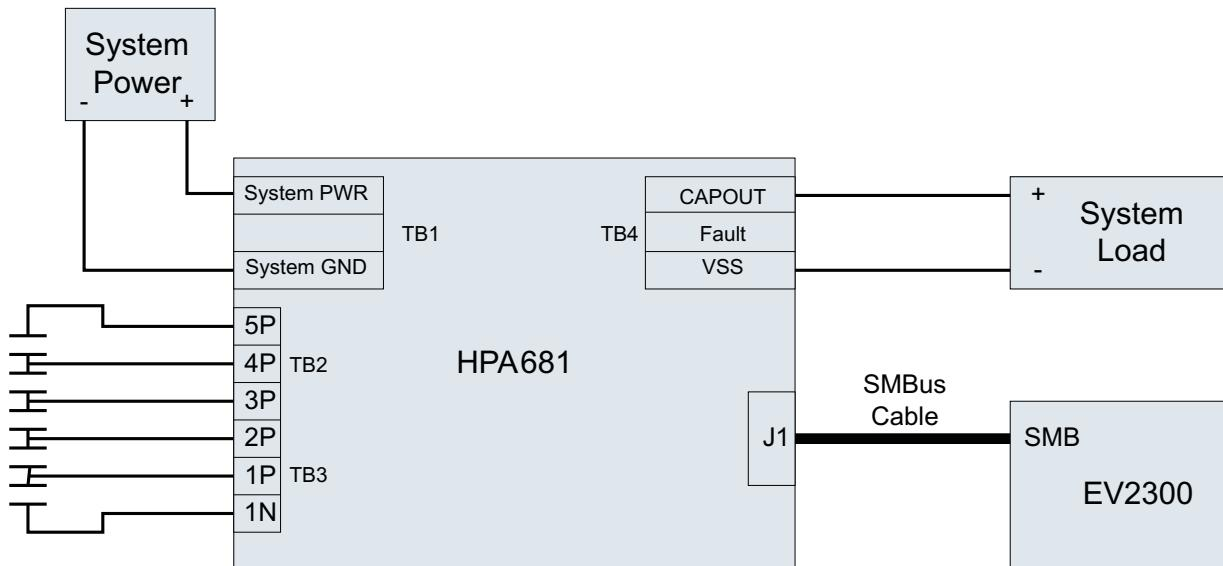
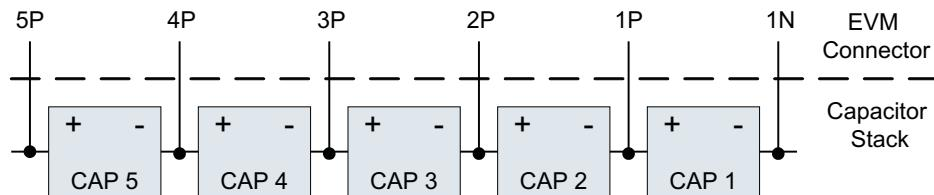

Figure 9. bq33100 Circuit Module Connection to Cells, System Load, and System Power
Figure 14. Connection Sequence
Figure 9 shows how to connect the bq33100 circuit module to the super capacitors, system load, and system power.
1. Connect the most negative terminal (– terminal of cap 1) of the serially-connected, 5-capacitor stack to the 1N PIN of the TB2–TB3 connector as shown in Figure 14. (See also Figure 9 for TB2–TB3 location).